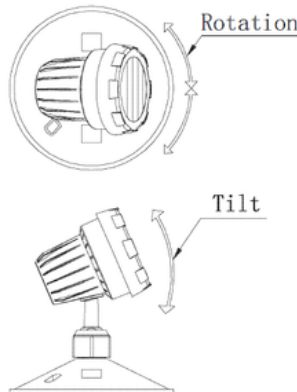

Fig. 2
- (1): Make wires connections. Observe polarity (if required); connect the lamp to the DC supply wires; positive and negative are identify with labels on each wire (when indicated).
- (2): Install the canopy to the Junction Box with the Mounting Screws (not included).
- (3): Install the lamp(s) gently to avoid breaking the pins.
- (4): Apply power.
5.2.2, HEADS ADJUSTMENT (Fig.2)